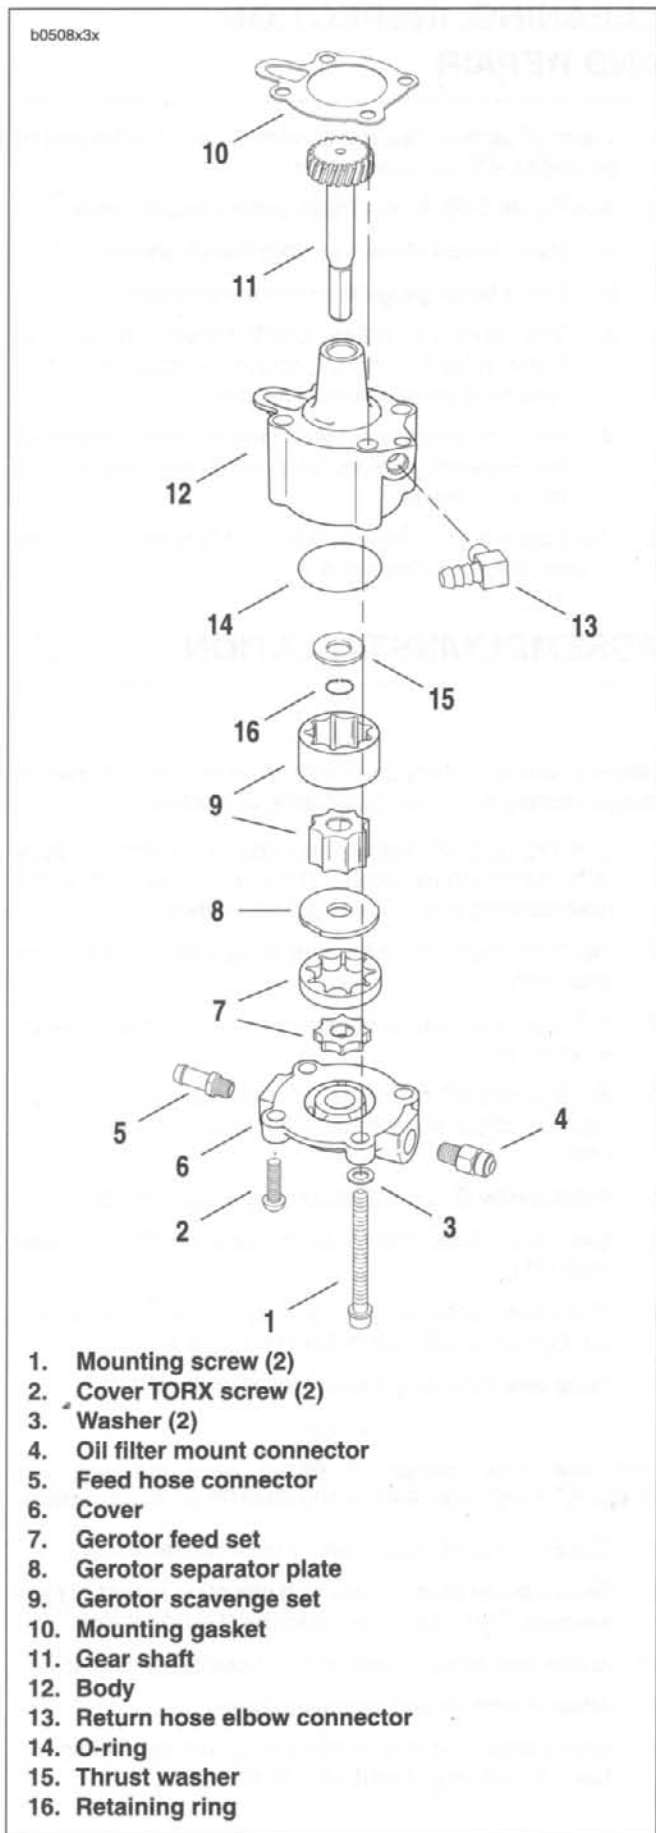
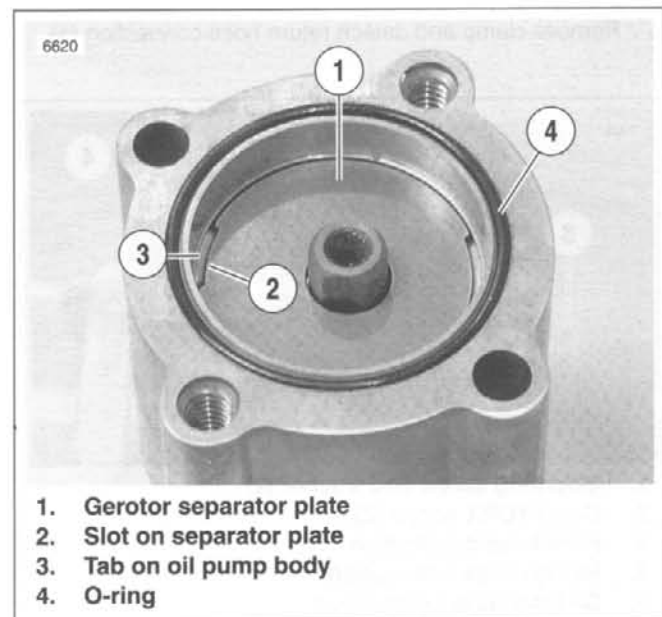

Figure 3-55. Oil Pump
Figure 3-57. Separator Plate Slots
See Figure 3-55. Gravity-fed oil from the oil tank enters the pump through the feed hose connector (5). It is forced by the gerotor feed set (7) through a hose to the oil filter. Return oil from the flywheel compartment is drawn back into the pump and is forced by the gerotor scavenge set (9) back to the oil tank.
6. See Figure 3-55. Remove cover TORX screws (2). Lift cover (6) off body (12). Remove and discard O-ring (14).
7. Slide both pieces of gerotor feed set (7), separator plate (8) and both pieces of gerotor scavenge set (9) off gear shaft (11).
8. Remove and discard retaining ring (16). Remove thrust washer (15) and gear shaft (11).
3. See Figure 3-55. Check gear shaft (11) teeth for damage or wear. Replace if necessary.
1. See Figure 3-55. Install gear shaft (11) through body (12). Position thrust washer (15) over end of shaft. Install **new** retaining ring (16) into groove in shaft.
2. Insert inner gerotor of the gerotor scavenge set (9) over gear shaft.
3. Place outer gerotor over inner gerotor to complete scavenge set (9).
4. See Figure 3-57. Install gerotor separator plate (1) by lining up slots (2) on perimeter with tabs (3) inside oil pump body.
5. Install a **new** O-ring (4) into groove in pump body.
6. See Figure 3-55. Place gerotor feed set (7) over gear shaft (11).
7. Place cover onto pump body. Install cover TORX screws (2). Tighten to 125-150 **in-lbs** (14.1-16.9 Nm).
8. Place **new** mounting gasket (10) in position.